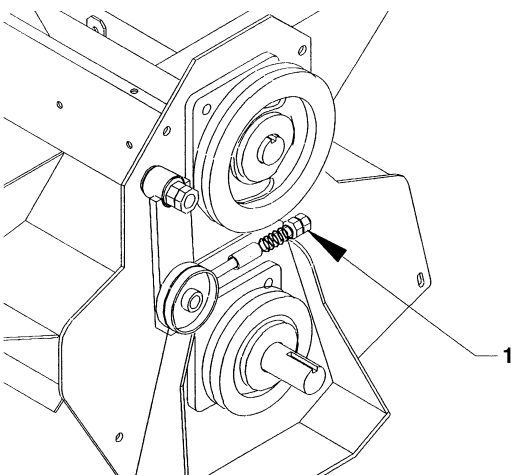

Figure 6
15. Using the adjustment nut on the spring rod, set the tension of the belt. (See Fig. 6).
ADJUSTING THE BELT DRIVE (Fig. 6)